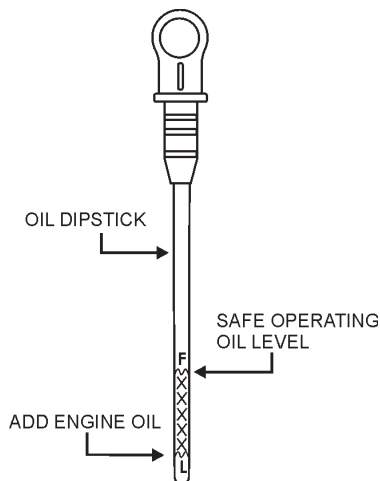

Figure 5. Engine Oil Dipstick
2. Determine if engine oil is low (Figure 5), add correct amount of engine oil to bring oil level to a normal safe level.